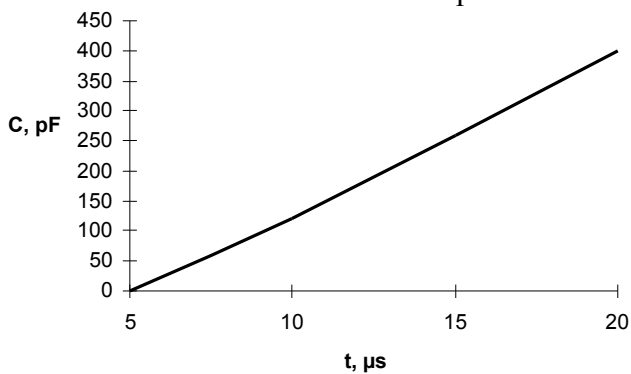

Figure 10 – Graph of operation threshold dependence of saturation protection versus trimmer capacity
**Cmc** – timing capacity connection output of controlled transistor turn-off delay when current overload. Protection operation delay is necessary to avoid malfunctions at short-time inductive kicks. Thereof this delay duration will be equal to “rerun impulse” continuance in case of emergency. For protection operation delay increase it is recommended to install the condensers with the values showed at Figure 10. Initially the condenser of 100 pF is set that corresponds to delay time 8  $\mu$ s (typ.)